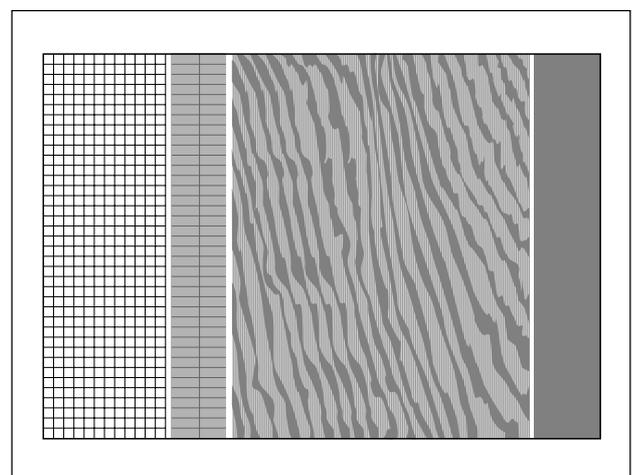

Fig. 2
- The test pattern shown in Figure 2 is printed.